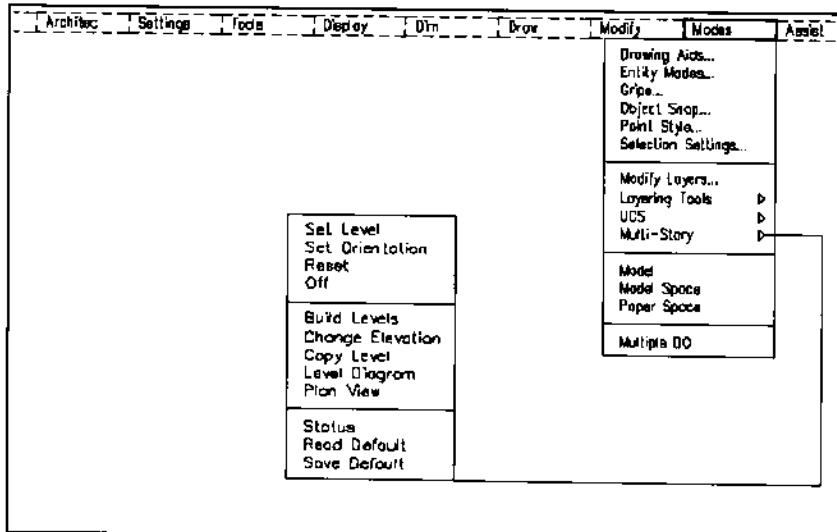

Figure 12.
2. Create the level names and elevations using the Build Levels command under the Multi-Story pull-down menu as shown in Figure 12.
1. Some commands require that Multi-Story be ON. The Set Level command shown in Figure 12 will turn Multi-Story ON.
1. Select Status from the Multi-Story menu shown in Figure 12 to confirm and view the current level settings.
- Use the Copy Level command under Multi-Story shown in Figure 12 to create a new set of layers with a prefix, or Major name, called Level FL01 and add the set to the current layers.